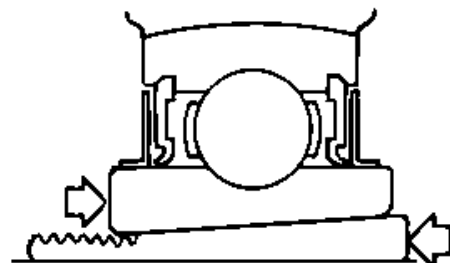

Fig. 4.2
- 2) Slide the insert bearing unit onto the shaft and press-fit them with each other so that the bearing inside diameter surface comes in close contact with the tapered outer surface of the adapter sleeve. (Fig. 4.2)